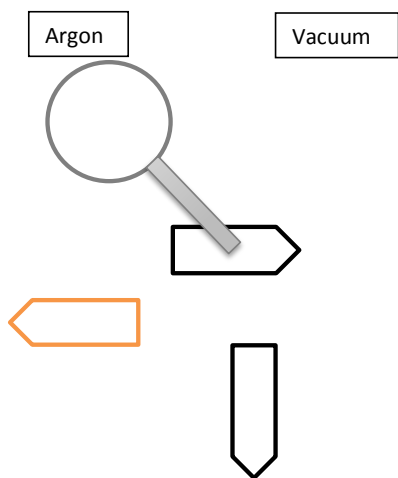

Figure 4 – system is open to vacuum
9. Open the system by turning the bottom knob to its vertical position (figure 4) and leave for a minimum of 30 minutes. (*NOTE* - if you are replacing more than 1 flask at a time, then it will need to vacuum longer)